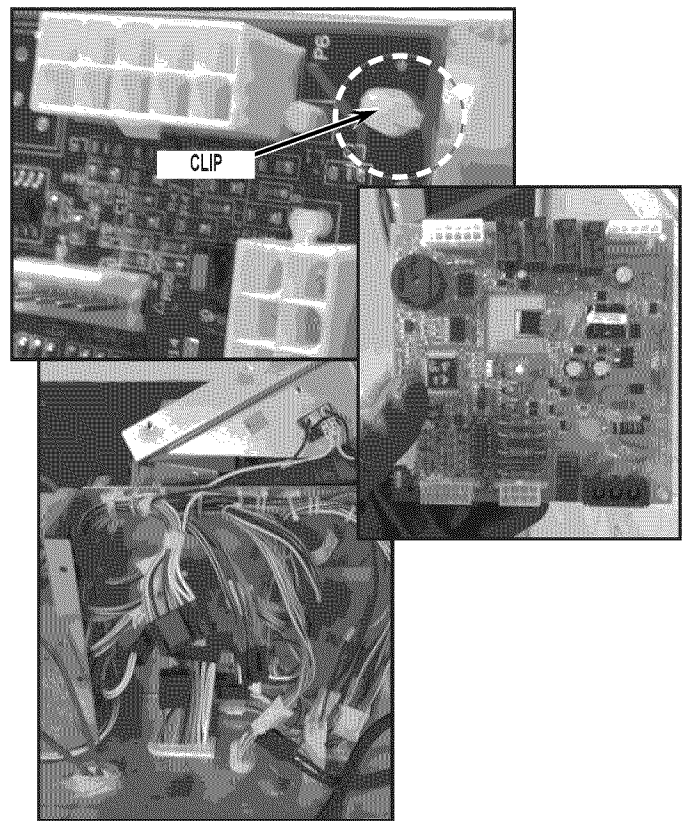

FIGURE 19
24. Remove old HV board by releasing clips holding board to old HV housing and discard board. See *Figure 19*.